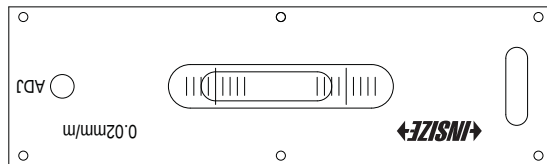

Fig.8
- Turn the level 180°, slide (not put) the level at the same position of the surface (Fig.8).